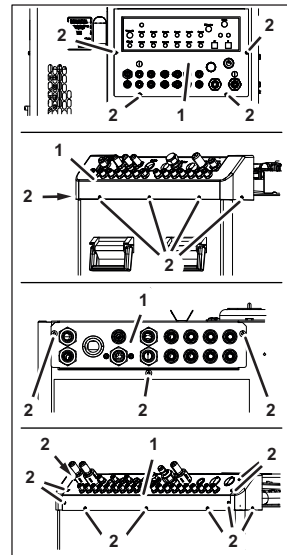

Figure 37
1. Disconnect all tubes and connections from the relevant connecting plate (Figure 37/1).
2. Remove the relevant fastening bolt(s) (Figure 37/2) from the relevant connecting plate (Figure 37/1).
3. Lift off the relevant connecting plate (Figure 37/1).
4. Position the new connecting plate (Figure 37/1) on the unit.
5. Attach the relevant connecting plate (Figure 37/1) using the relevant fastening bolts (Figure 37/ 2).
6. Connect all tubes and connections to the relevant connecting plate (Figure 37/1) by means of push-in fittings.